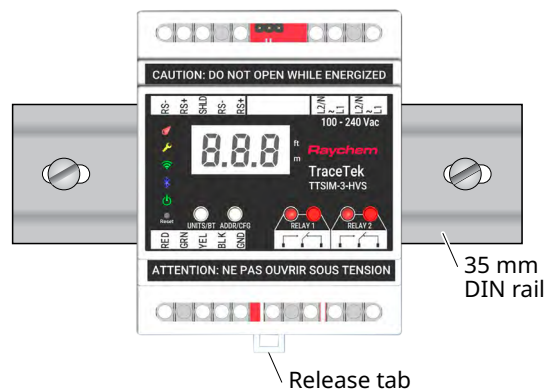

Figure 1. Cabinet DIN Rail Mount
- Remove the TTSIM-3/4 from its packaging and snap onto the DIN rail with the release tab towards the bottom. See Figure 1.